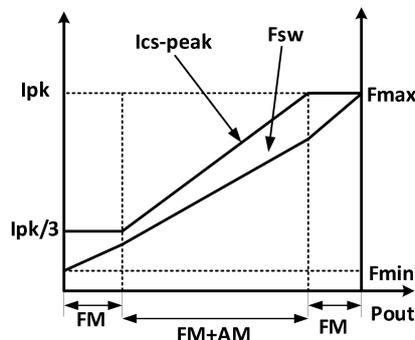

Fig.8. FM mode and AM mode
As shown in figure 8, in order to meet the demanding requirements of average efficiency and standby power consumption, the G1135N-SG uses a combination of PFM control (FM) and PAM control (AM).